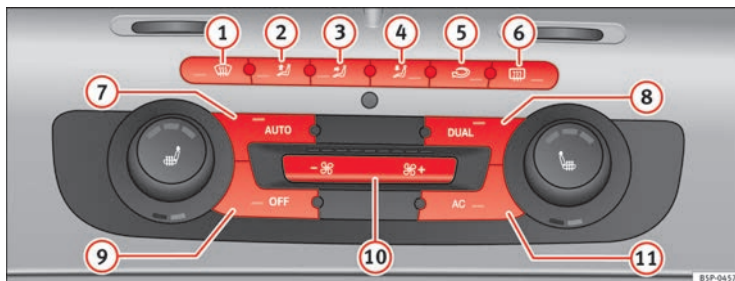

Fig. 132 On the dash panel: 2C Climatronic controls
- Turn the temperature control knobs ⇒ fig. 132 to adjust the temperature on the left hand side or the right hand side respectively.
- Press the  ⇒ fig. 132 button. “AUTO High” is shown on the radio display (high fan speed).
- Press the  button again ⇒ fig. 132. “AUTO Low” is shown on the radio display (low fan speed).